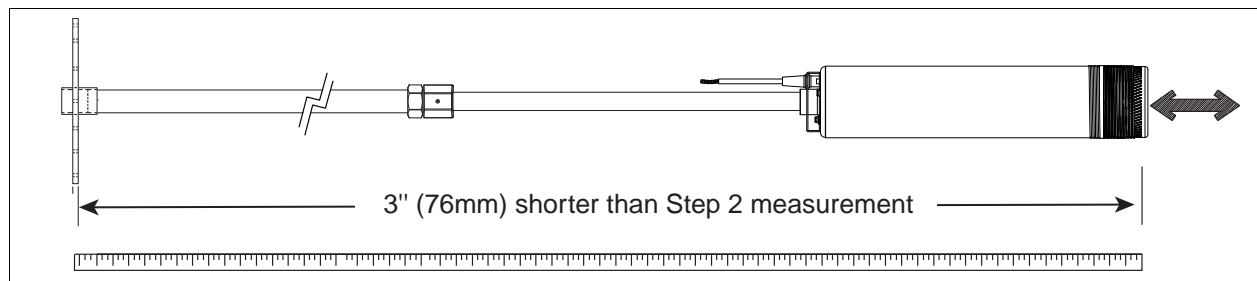

Figure 11. Adjusting Pump Length
6. Referencing Figure 11, pull the UMP end until the distance between the bottom of the bulk head and the bottom of the UMP is 3 inches (76 mm) shorter than the distance measured in Step 2.